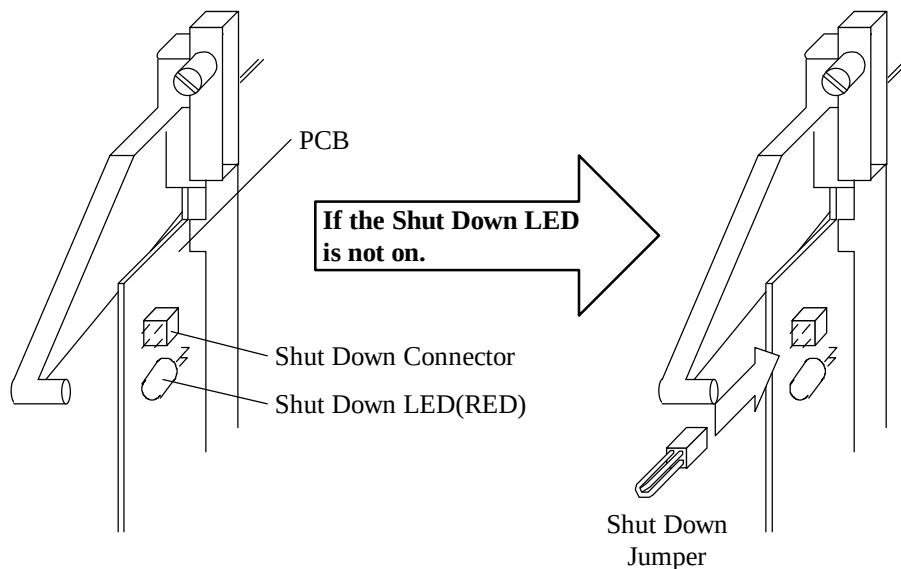

Fig. 4.7.5-1 Shut Down LED
- a. Confirm that Shut Down LED is on.(Fig. 4.7.5-1). If the LED is not on, connect the Shut Down Jumper to the Shut Down Connector.